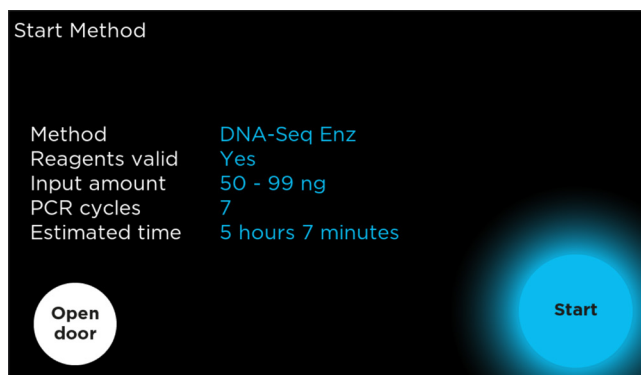

Figure 14. Start method screen.
1. When a run completes, “DNA-Seq Enz complete” will be displayed (Figure 14). Touch the “Retrieve libraries” button when ready to retrieve your completed libraries.